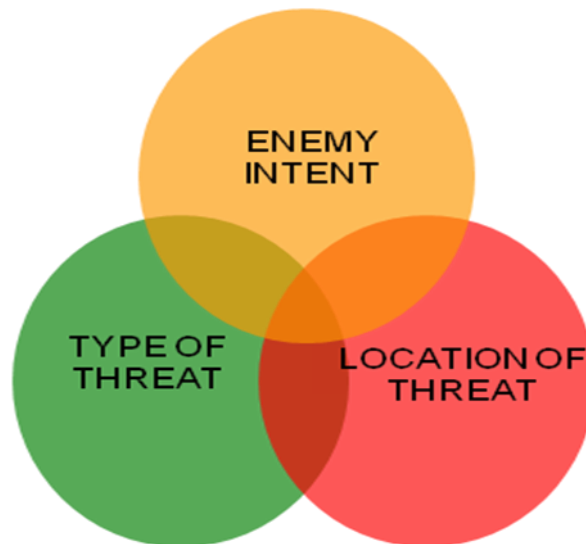

Figure1. Threat Assessment
1. A dismounted operation enhances your interaction with the local populace and enables you to gain intelligence in your Area of Operations (AO) with Tactical Questioning (T/Q). This type of operation does not go without risk as you are more vulnerable when maneuvering within the AO without armored vehicular protection. Many lessons learned have been put into the Dismounted Smart-Book to be used as a reference and to help mitigate the threat to dismounted patrols. This smart book demonstrates successful best practices used to support dismounted operations in a tactical environment.
3. The key to the success of dismounted operations requires a thorough threat assessment of your area of operations. If you think like an insurgent when conducting dismounted patrols, it will aid you in making critical decisions when moving across the battlefield. For a threat to be viable there must be intent, capability and a suitable location, in terms of time and space, for an offensive action to take place. This is shown in Figure 1.